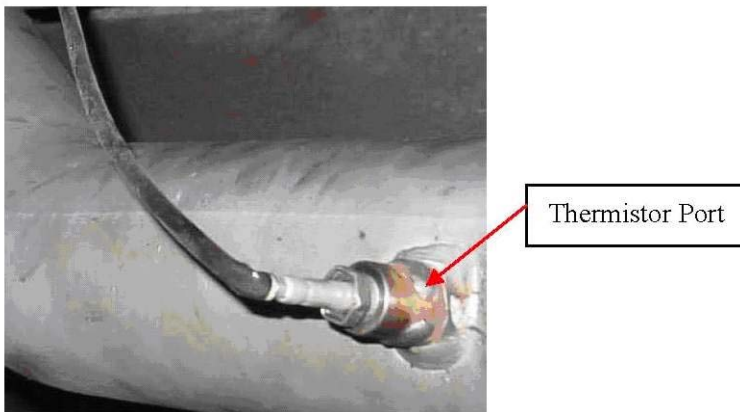

Figure 4 Thermistor Attachment
- If using the temperature capable option, apply a thin coat of anti-seize to the male adapter end of the 1/4" NPT to M12x1.25 adapter. Thread it into the 1/4" NPT boss. Then, thread the thermistor fitting into the adapter (Figure 4). **NOTE: The thermistor is delivered with an anti-seize compound already applied. DO NOT apply anti-seize to the thermistor.**